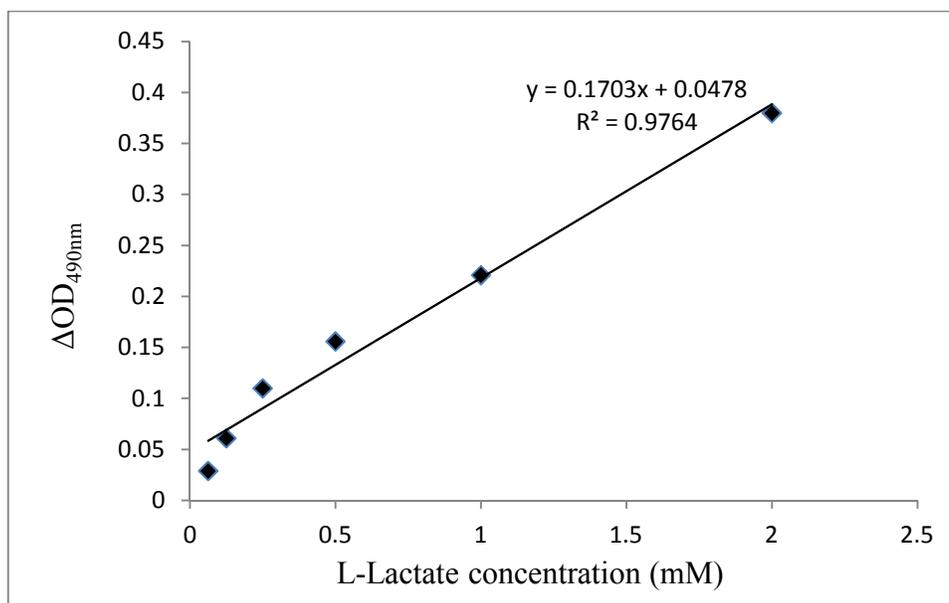

Figure 1. A typical L-Lactate standard curve measured by ScienCell™ L-Lactate Assay
Data from L-Lactate Assay of lactate solutions with concentrations ranging from 0.05 to 2 mM show a linear relationship between OD_{490nm} and lactate concentration (Figure 1).
2. Based on the calibrated ΔOD_{490nm} of the L-Lactate standard, make a standard curve by plotting ΔOD_{490nm} as a function of L-Lactate concentration. (See Figure 1 for a typical standard curve.) Determine the equation and R^2 value of the trend line.